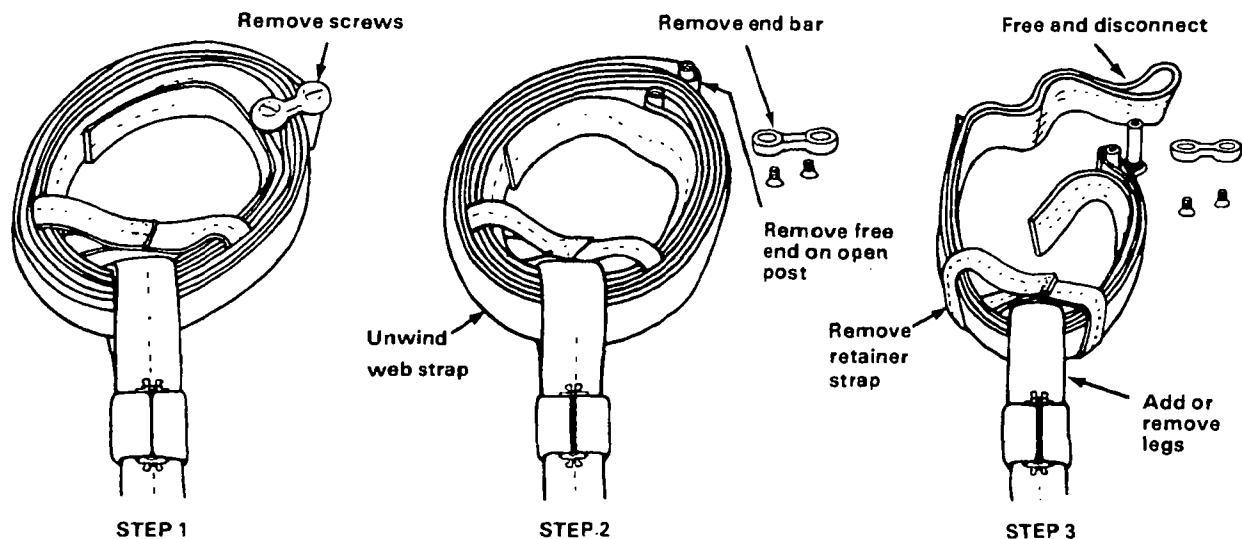

Figure 6-23. Taking Apart the Ring
Step 1 - Remove the two screws and end bar from the web ring connector bar (Figure 6-23).